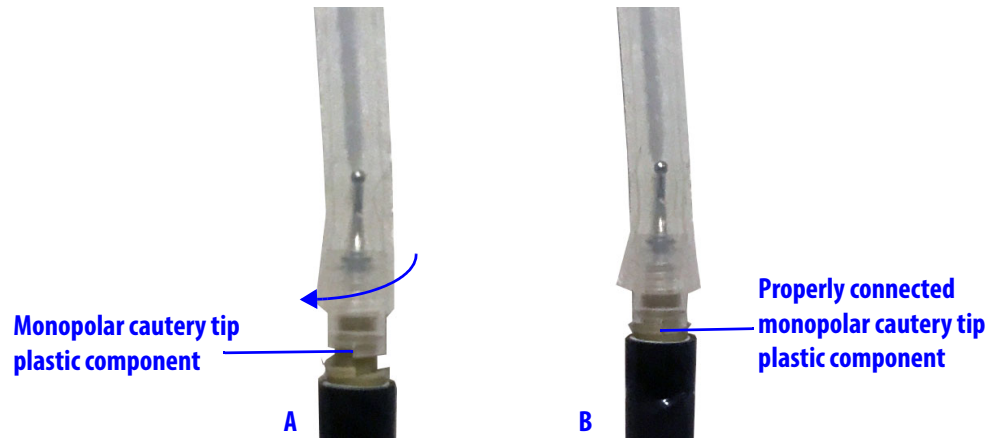

Figure 6.5 Rotate the plastic component of the monopolar cautery tip (A), and confirm it is properly connected (B)
4. Hold the installation tool around the plastic component of the monopolar cautery tip and rotate clockwise until it is secure (Figure 6.5 A and B). Visually confirm that there is no gap between the monopolar cautery tip plastic component and the instrument to ensure it is properly connected.